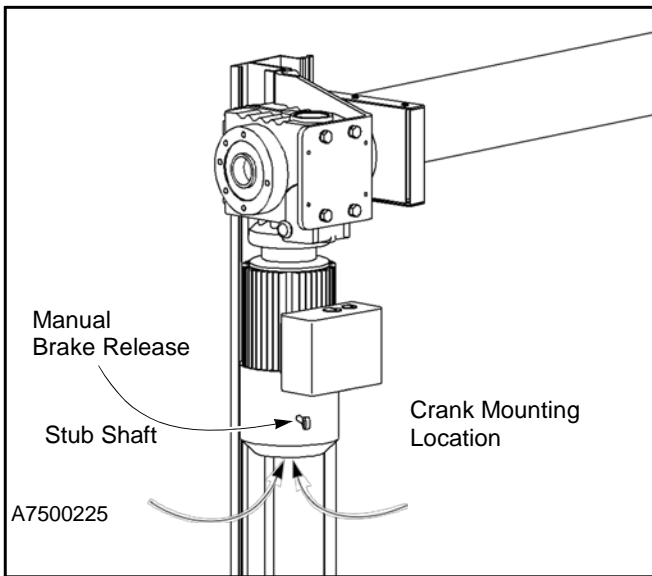

Figure 22
1. Check the brake release lever located on the motor/brake assembly. The brake must be in the engaged position. (See Figure 22.)